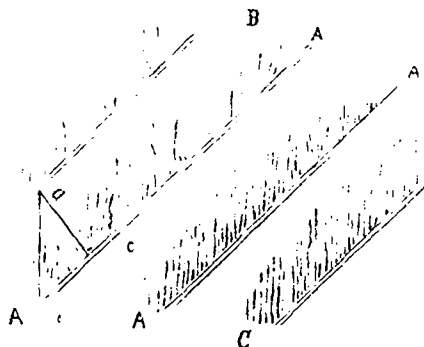

Fig. 2.
apart, may run straight down, and nearly parallel. (1) They should never run obliquely down. Fig. 1 shows how ditches from the high side of the field at *B*, directly down to *C*, drain the land on both sides (the double lines representing the ditches), the water soaking obliquely from the dotted line on each side in the direction of *a* to *b*, or of *d* to *e*, into the drains. Fig. 2 represents oblique drains, taking the water